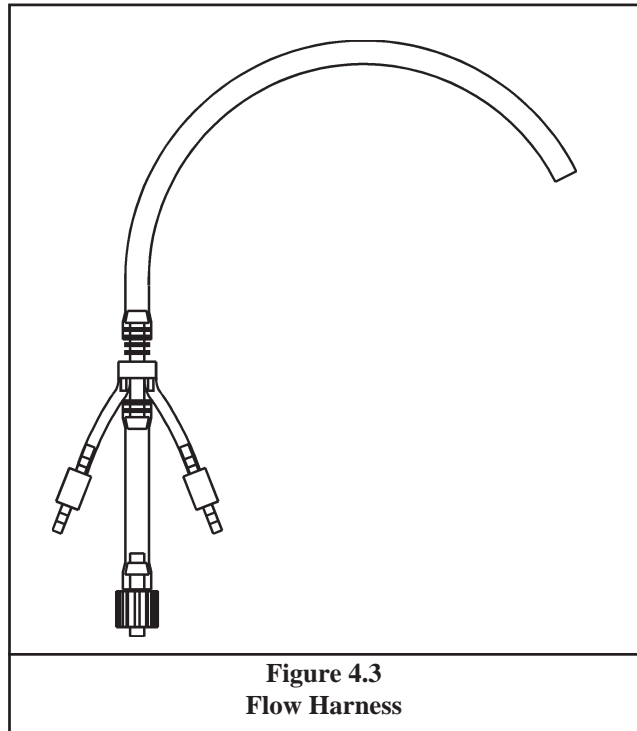

Figure 4.3
4.3.2 Flow Harness (Figure 4.3)